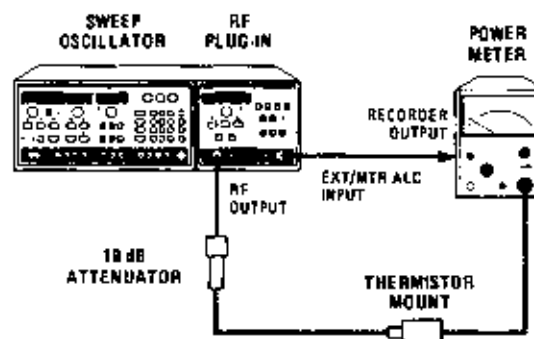

Figure 5-23. Power Meter Leveling Calibration
1. Connect equipment as shown in Figure 5-23. Ensure 8350A  $\square$  MOD is off. Press **CW** and select a frequency at midband.